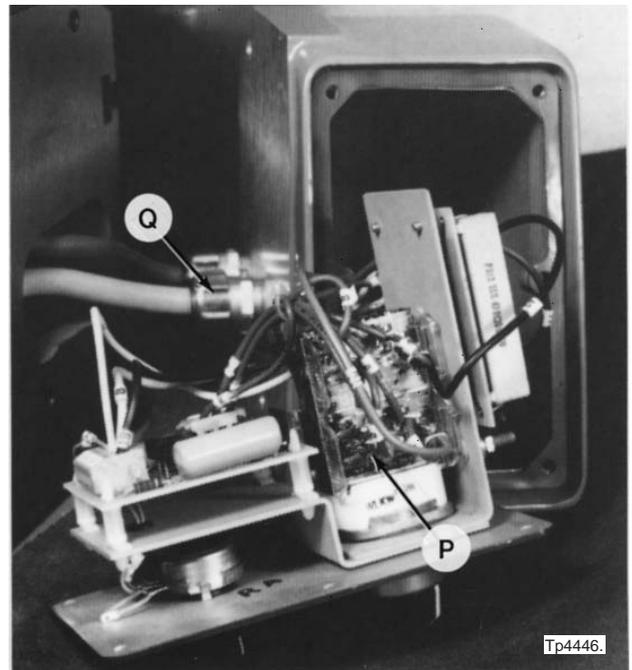

Figure 3.40 - Power Feed Module (Side View)
5. Record the connections; then disconnect wires A1 and A2 from switch “P”, Figure 3.40 .
10. Remove cord grip nut "Q", Figure 3.40, and remove the power feed motor cable from the control box.
10. Slide cord grip nut "Q", Figure 3.40, over the power feed motor cable.
17. Connect wires A1 and A2 to switch "P", Figure 3.40, as recorded during the removal procedure.